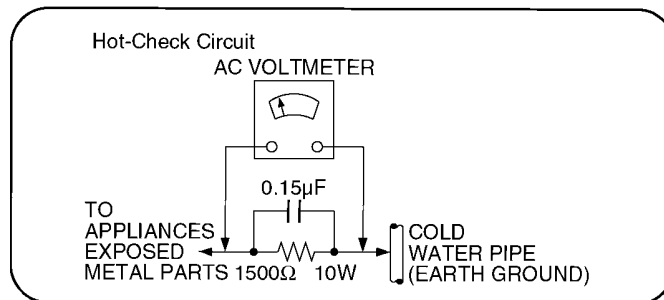

Figure 1
### 1.1.2. LEAKAGE CURRENT HOT CHECK (See Figure 1.)
2. Connect a  $1.5\text{k}\Omega$ , 10 watts resistor, in parallel with a  $0.15\mu\text{F}$  capacitors, between each exposed metallic part on the set and a good earth ground such as a water pipe, as shown in Figure 1.